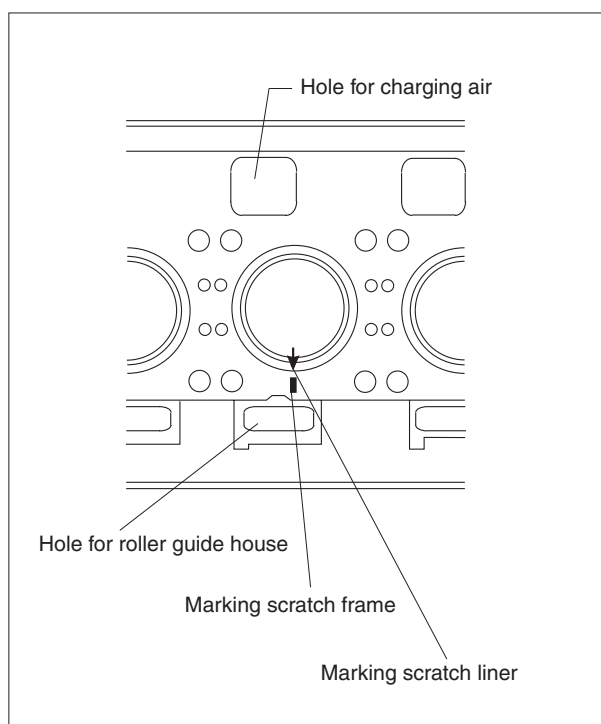

Fig 1.
1) Prior to mounting of the lifting tool and dismounting from the frame, it must be ensured that the liner and frame have been marked to match, for the sake of a possible remounting of the liner, *see fig 1*.